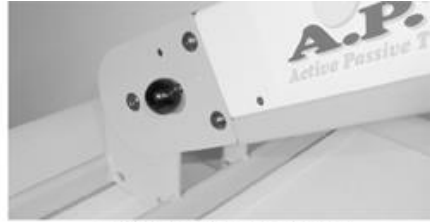

Figure 6 - angle release knob
Step 2: Loosen the angle-securing knob (Figure 5-1) and adjust the **APT-1K** to the required angle. To increase the angle, lift the body of the **APT-1K**, allow it to “click” into one of the operating positions and retighten the securing knob. To decrease the angle, pull the angle release knob (Figure 6), lower the body of the **APT-1K**, allow it to “click” into another operating position and tighten the securing knob.